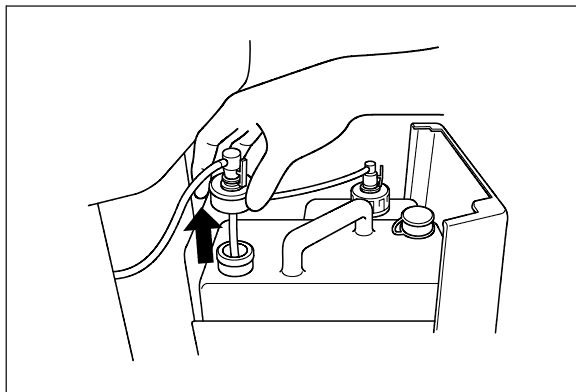

Figure 7.76
2. Detach the detergent tank cap to which a tube is connected (Do not disconnect the connector.) (see Figure 7.76).